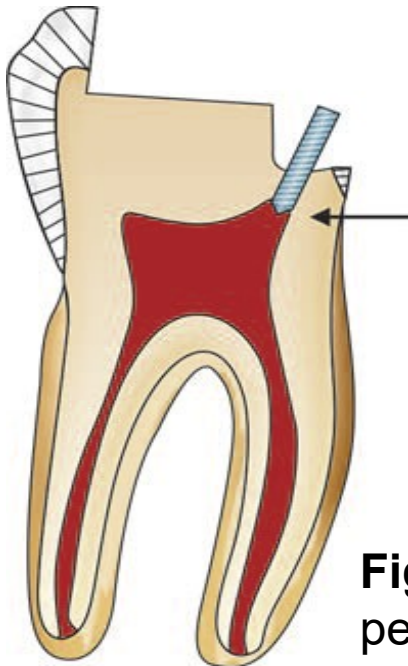

Fig. 5.19: Pulp perforation while pin placement
- Pin placement can also result in pulp and periodontal perforation (**Fig. 5.19**) and this is indicated with sudden bleeding while operating the drill. Bleeding is more abundant if there is periodontal perforation (**Fig.5.20**).